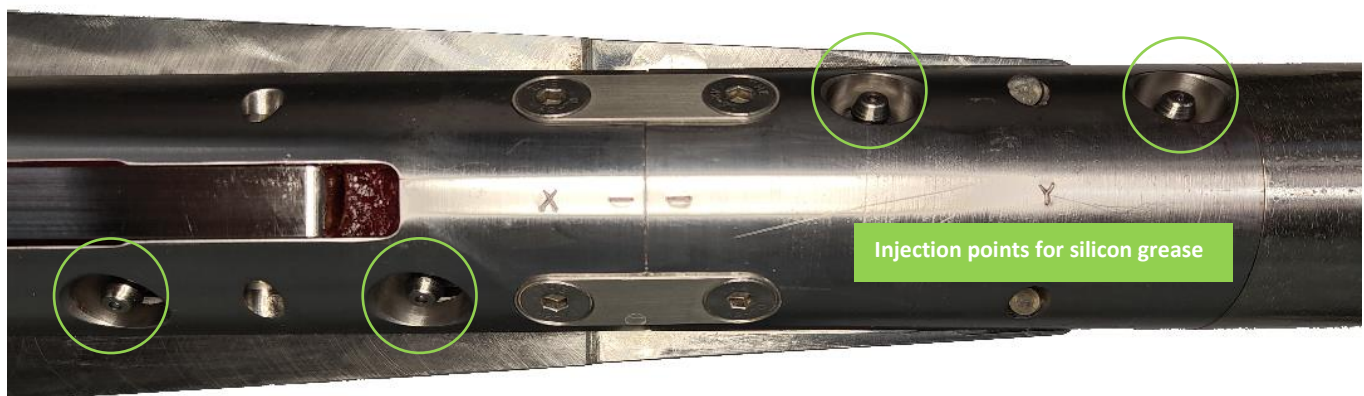

Figure 6-2 Caliper arm assembly - grease injection points
1. There are **TWO** calibration pages, one for Cal X and another for Cal Y. Check the letters stamped into the housing by the arm joints (Figure 6-2) and check you are entering the calibration data for the correct arms.
The grease zerks on the caliper arm assembly are the grease injection points (Figure 6-2).